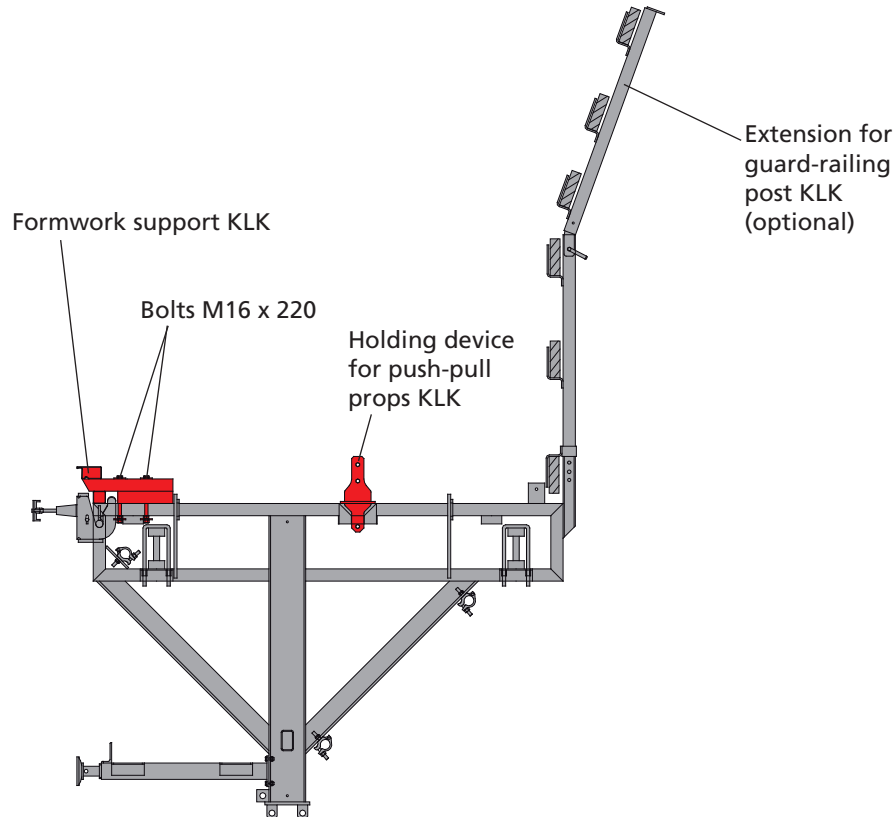

Fig. 18.1
The formwork support KLK is mounted to the KLK bracket by using two (2) bolts M16 x 220, (Fig. 18.1).